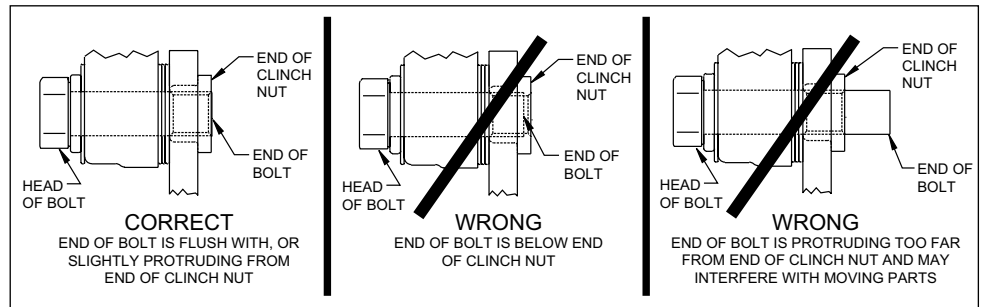

Figure 3. Clinch Nut Engagement Diagram
CAUTION: All mounting bolts must fully engage clinch nuts. Be sure to check that all bolts are either flush or protruding through flanged side of clinch nut after shimming, Figure 3.
flush with or slightly protruding from the head of the clinch nut, as shown in Figure 3. If necessary place spare shims between washer (13) and caliper mounting ear to achieve the proper clinch nut engagement. Once the caliper alignment and clinch nut engagement are correct, remove the bolts one at a time, apply red Loctite® 271 to bolt threads, and torque to 35 ft-lb.